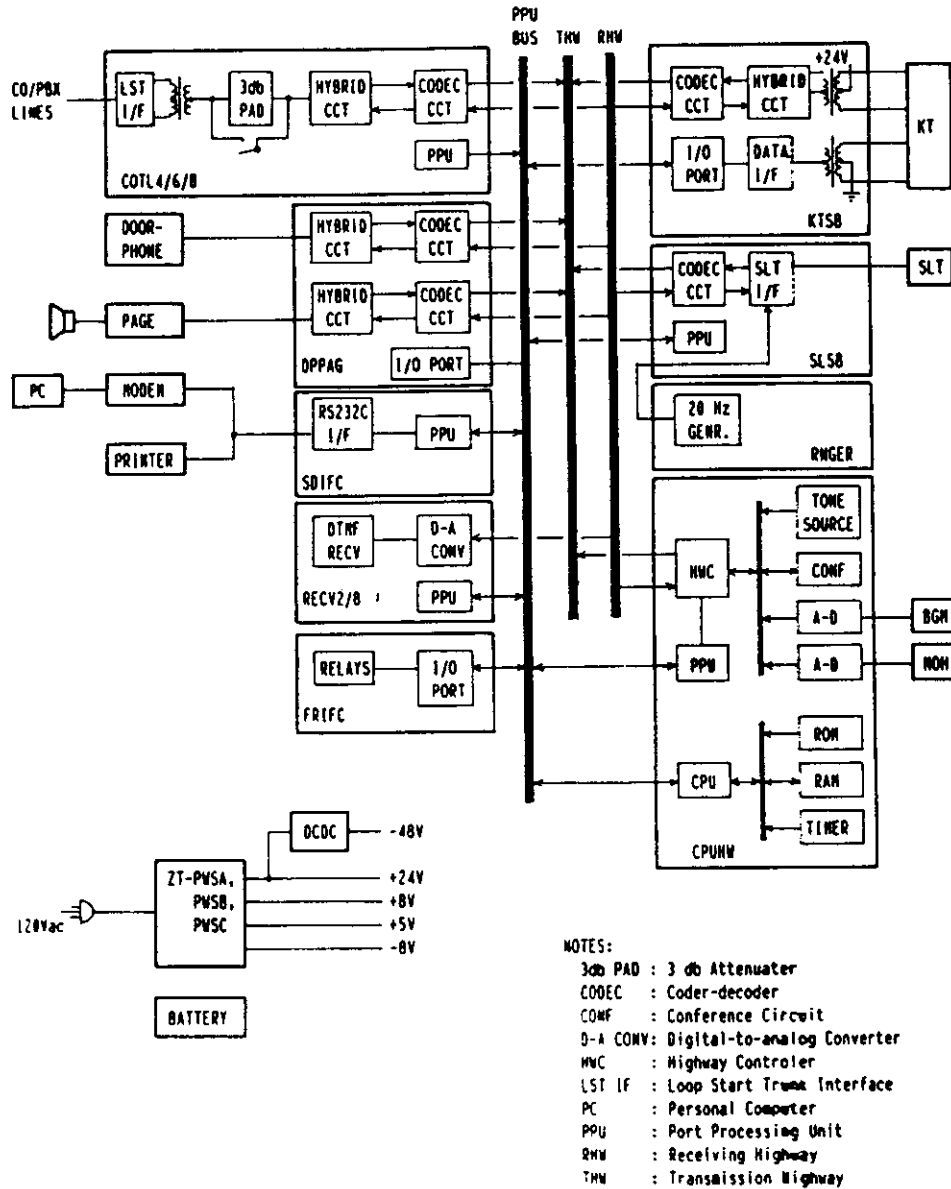

FIGURE 6-2 SYSTEM ARCHITECTURE
2.02 The KSU contains functional modules and are interconnected on the motherboard, where the bus line carries computer data, address and control. The system architecture is computer oriented and provides greater flexibility in system construction. Figure 6-2 illustrates the system architecture.